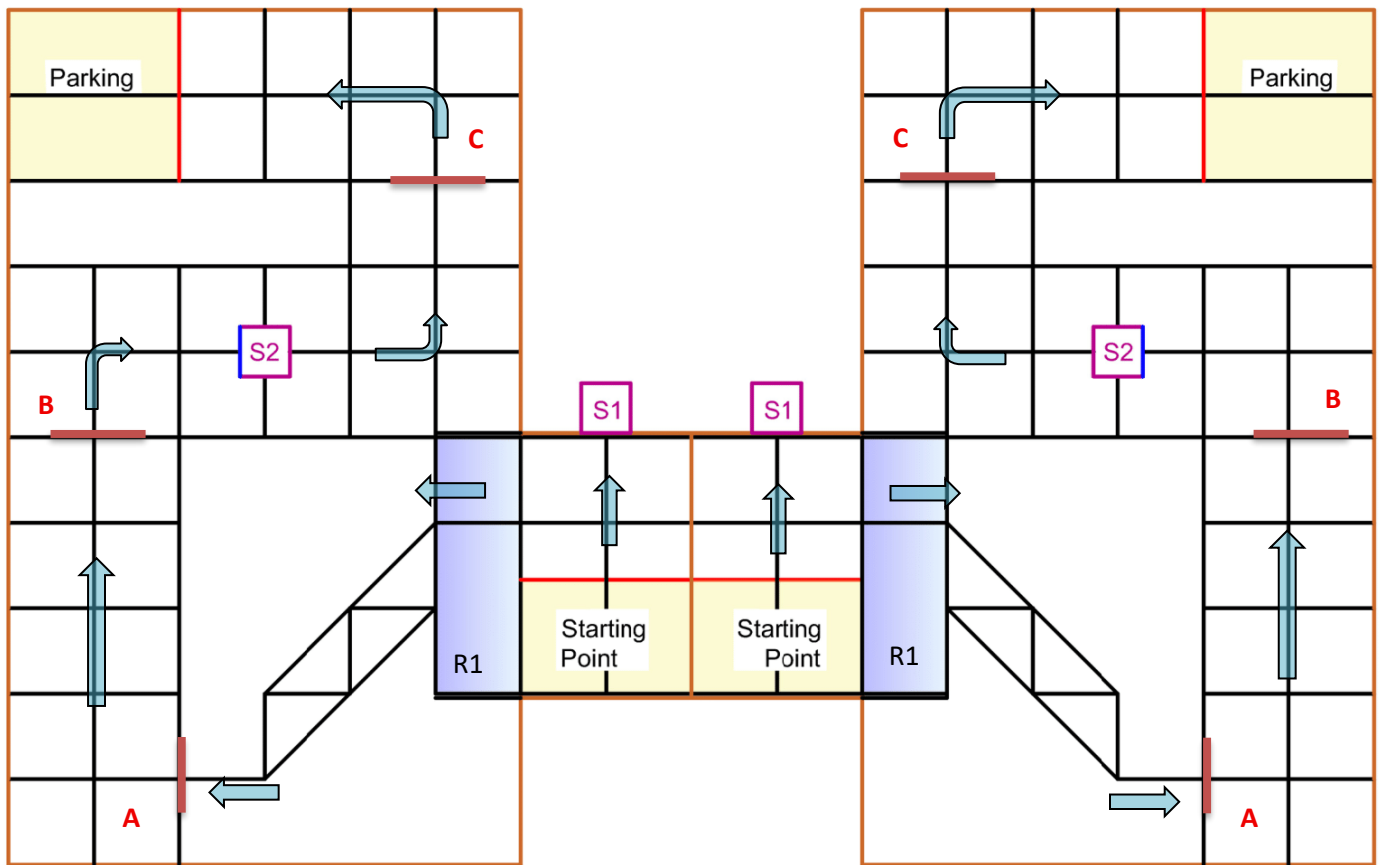

Figure 1: Contest Arena top view
NERC 2026 theme focuses on automation in modern warehouse logistics. In this theme, teams are required to build a modular robot capable of transporting and placing pallets within a warehouse environment. The robot must carry a total of 2 preloaded pallets (represented by dominos) and accurately deposit them into 2 defined storage racks located across the arena. The first team to successfully place the 2 pallets in their designated rack slots and reach the parking area will be declared the winner. The Contest Arena, representing a complete warehouse setup and the pallet placement location, is shown in Figure 1. Details are as follows:
1. Laminated wooden sheets (lasani) are used for the construction of the arena. The floor of arena will be of white color as shown in the map (Fig. 1). All the boundary walls and separation walls have a height of 5 inches throughout the arena. The solid line made with black tape of 3cm width (Dotted Line in Fig 1) present on the floor of arena can be used for line tracking. The entire arena is divided into 12x12 inch grids.
2. Two storage units, S1 and S2, are placed in the arena as shown in Figure 1.
7. The ramp region (R1), shown with gradient fill in Fig. 1, represents the inclined surface
8. The ramp and ramp-parking regions include extended features as shown in Fig. 1:
9. The starting position and orientation of the robots are fixed. The robot must be placed behind the starting line shown in Fig. 1 with red color. The complete robot should be behind the line. The red colored line is only for reference in Fig. 1, it will be a solid black colored line on actual arena.
10. At the start of the match, the robot will be positioned at the starting point as shown on Fig.1, carrying two preloaded parcels.
line, and no part remains on or above the line. (The line shown in red in Fig. 1 is for reference only and will be a solid black line on the actual arena.)
26. Blue arrows, red checkpoints, red starting line, and red ending/parking lines shown in Fig. 1 are for reference only. These markings will not be present on the actual arena. On the physical arena, starting and parking lines will be solid black.
- Blue arrows, red checkpoints, red starting line, and red ending/parking lines shown in Fig. 1 are for reference only. These markings will not be present on the actual arena. On the physical arena, starting and parking lines will be solid black.
* Crossing means that any tire of the robot must have crossed the red marker line at the checkpoints mentioned, as shown in Fig. 1.